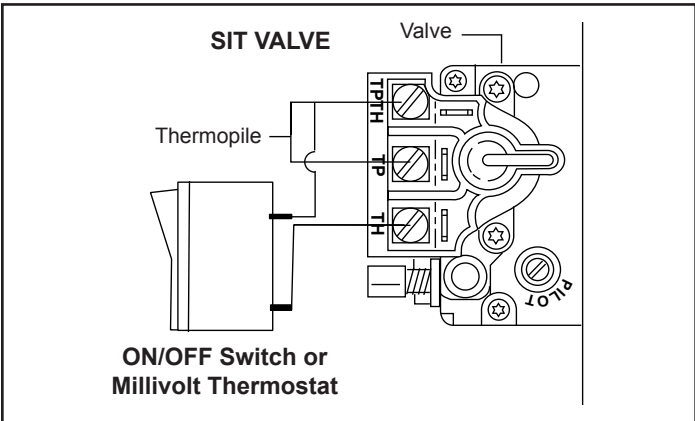

Figure 47 - Install wiring to switch before connecting to valve
- 3. Attach wires to valve terminals. (Figure 47)
- 2. Connect the thermostat wires to the valve. (Figure 47)